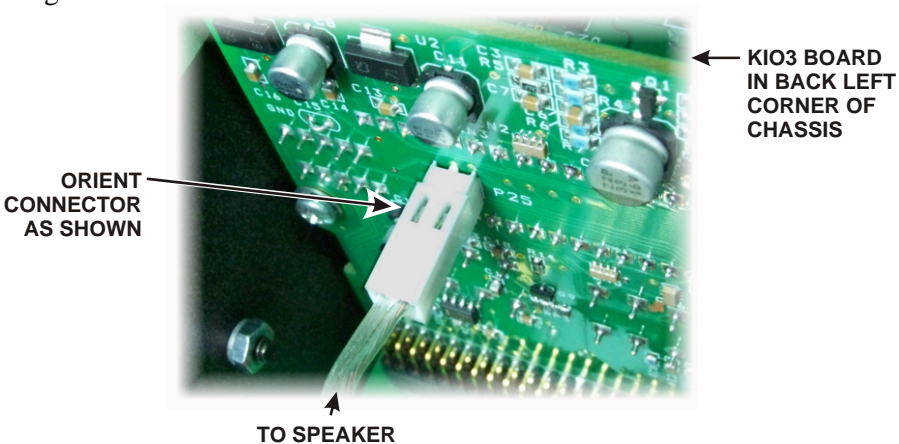

Figure 8. Connecting Speaker Cable.
- Hold the top cover above the K3 and plug the speaker wire into P25 on the KIO3 board at the left rear of the K3 as shown in Figure 8.